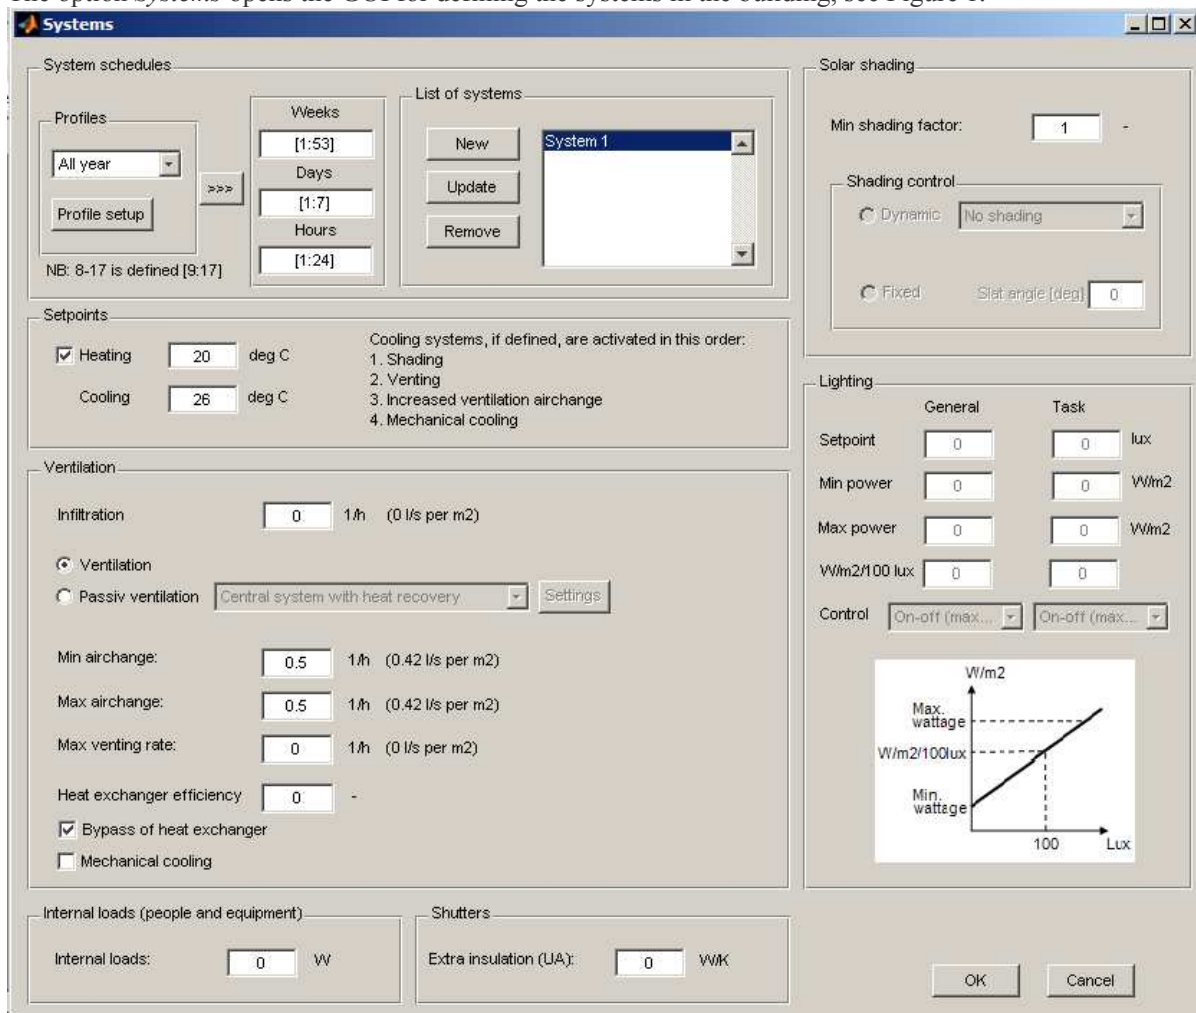

Figure 15 Input data for systems
**System schedules** is where to define the time periods the systems are in use. They must be defined in the fields for weeks, days and hours. The statement in Figure 15 means that the system is active the whole year.